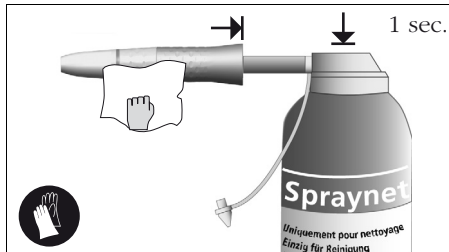

fig. 4
- Spray the interior and exterior of the instrument **fig. 4** to remove residue and clean all surfaces carefully.
Spray the interior of the instrument with **Spraynet** product **fig. 4** immediately to remove all traces of detergent and rinsing water to prevent any adverse impact on the internal components, e.g. which might cause them to seize. If necessary, clean with a dry paper towel.